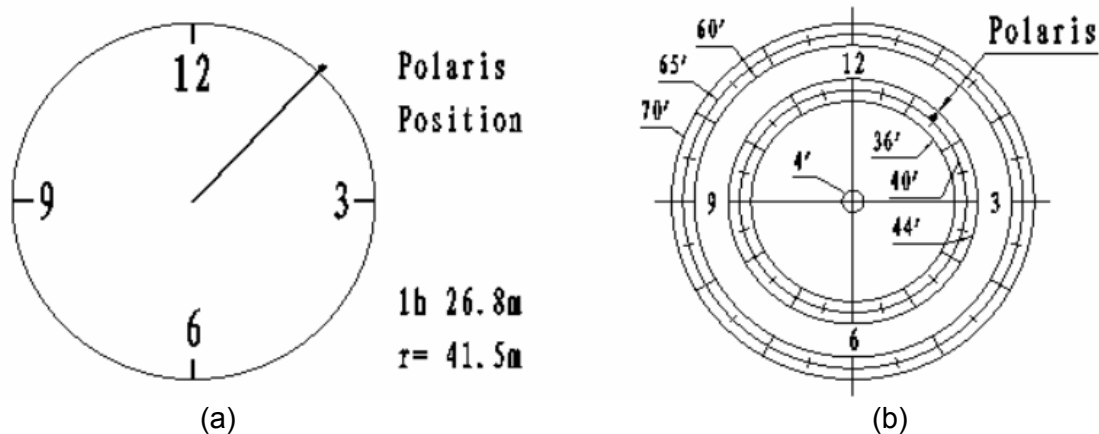

Figure 14
- (1) Turn on the mount power by pressing the **On/Off** switch on the R.A. unit. After “GPS OK” is shown in the upper right corner of the HC, the LCD will display the Polaris Position as shown in Figure 14 (a). If you are practicing inside or when there is no GPS signal, you can view this chart by pressing the **MENU** button, then select “Align” and “Polaris Position”. For example, on May 30, 2010, 20:00:00 in Boston, US (Lat N42°30’32” and Long W71°08’50”), 300 min behind UT, the Polaris Position is 1hr 26.8m and  $r = 41.5m$ , as shown in Figure 14 (a).
- (2) Look through the polar scope; make sure the polar scope is not blocked by the DEC axle. The 12 o’clock indicator of the Polar Scope Dial must be positioned on top.
- (3) Follow the **Polar axis adjustment** procedure (**not the hand controller**) to adjust the mount in altitude (latitude) and azimuth (heading) direction and place Polaris in the same position on the Polar Scope Dial as indicated on the HC LCD. In this case, the Polaris will be located at a radius of 41.5’ and an angle of 1 hour 26.8 minute, as shown in Figure 14 (b).